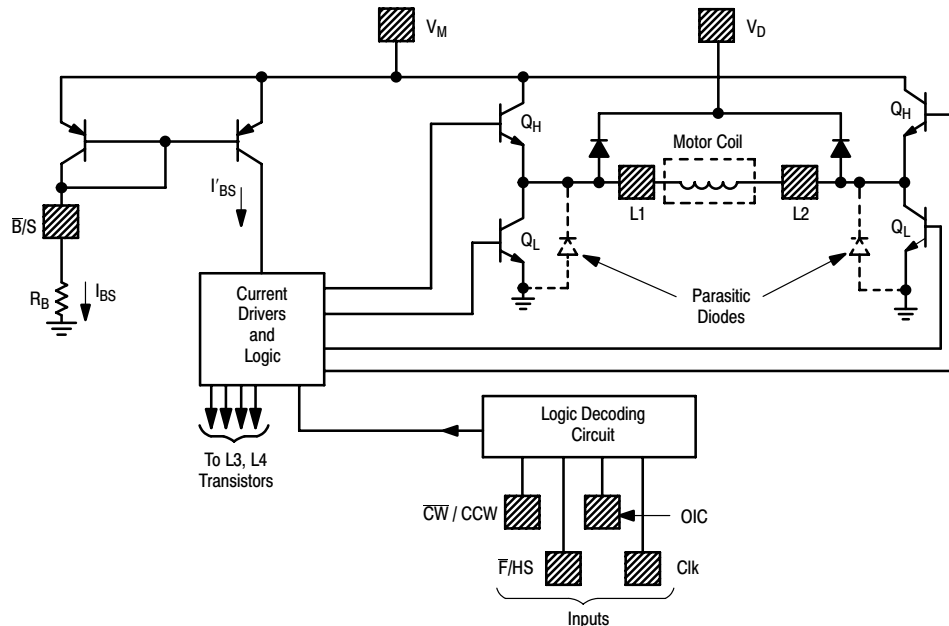
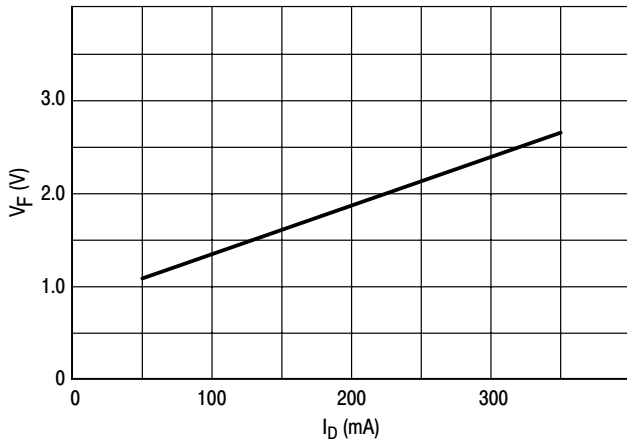
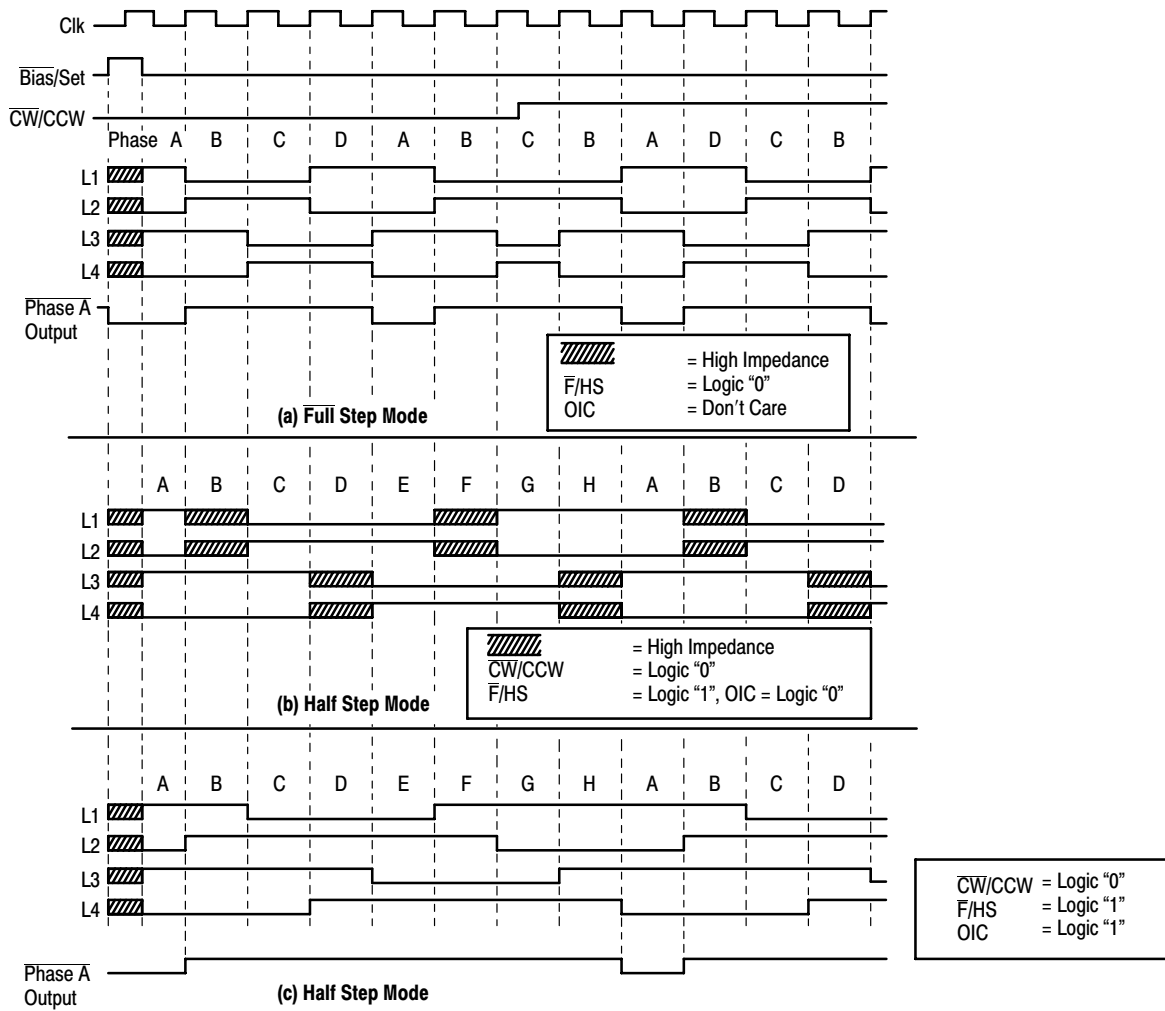
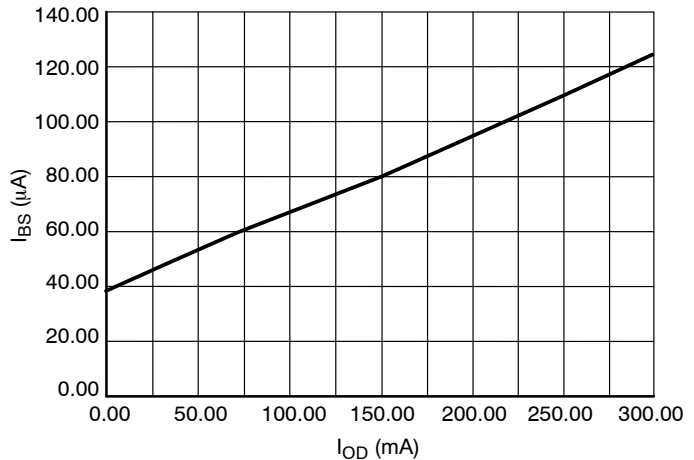

Figure 5. Output Stages
Figure 6. Clamp Diode Characteristics
Figure 7. Output Sequence
Figure 11. Bias/Set Current – Output Drive Current
The outputs (L1–L4) are high current outputs (see Figure 5), which when connected to a two-phase motor, provide two full-bridge configurations (L3 and L4 are not shown in Figure 5). The polarities applied to the motor coils depend on which transistor (Q_H or Q_L) of each output is on, which in turn depends on the inputs and the decoding circuitry.
are to be in a high impedance state, both transistors (Q_H and Q_L of Figure 5) of each output are off.
This pin allows for provision of a current path for the motor coil current during switching, in order to suppress back-EMF voltage spikes. V_D is normally connected to V_M (Pin 16) through a diode (zener or regular), a resistor, or directly. The peaks instantaneous voltage at the outputs must not exceed V_M by more than 6.0 V. The voltage drop across the internal clamping diodes must be included in this portion of the design (see Figure 6). Note the parasitic diodes (Figure 5) across each Q_L of each output provide for a complete circuit path for the switched current.
When this input is at a Logic “0” (< 0.8 V), the outputs change a full step with each clock cycle, with the sequence direction depending on the \overline{CW}/CCW input. There are four steps ($\overline{\text{Phase A}}$, $\overline{\text{B}}$, $\overline{\text{C}}$, $\overline{\text{D}}$) for each complete cycle of the sequencing logic. Current flows through both motor coils during each step, as shown in Figure 7.
When taken to a Logic “1” (>2.0 V), the outputs change a half step with each clock cycle, with the sequence direction depending on the \overline{CW}/CCW input. Eight steps ($\overline{\text{Phase A}}$ to $\overline{\text{H}}$) result for each complete cycle of the sequencing logic. $\overline{\text{Phase A}}$, $\overline{\text{C}}$, $\overline{\text{E}}$ and $\overline{\text{G}}$ correspond (in polarity) to $\overline{\text{Phase A}}$, $\overline{\text{B}}$, $\overline{\text{C}}$, and $\overline{\text{D}}$, respectively, of the full step sequence. $\overline{\text{Phase B}}$, $\overline{\text{D}}$, $\overline{\text{F}}$ and $\overline{\text{H}}$ provide current to one motor coil, while de-energizing the other coil. The condition of the outputs of the de-energized coil depends on the OIC input, see Figure 7 timing diagram.
The output impedance control input determines the output impedance to the de-energized coil when operating in the half-step mode. When the outputs are in $\overline{\text{Phase B}}$, $\overline{\text{D}}$, $\overline{\text{F}}$ or $\overline{\text{H}}$ (Figure 7) and this input is at a Logic “0” (<0.8 V), the two outputs to the de-energized coil are in a high impedance condition – Q_L and Q_H of both outputs (Figure 5) are off. When this input is at a Logic “1” (>2.0 V), a low impedance output is provided to the de-energized coil as both outputs have Q_H on (Q_L off). To complete the low impedance path requires connecting V_D to V_M as described elsewhere in this data sheet.
a) The maximum output sink current is determined by the base drive current supplied to the lower transistors (Q_{LS} of Figure 5) of each output, which in turn, is a function of I_{BS}. The appropriate value of I_{BS} can be approximated using Figure 11.
For example, assume an application where $V_M = 12$ V, the motor requires 200 mA/coil, operating at room temperature with no heatsink on the IC. From Figure 11, I_{BS} is determined to be 95 μ A.